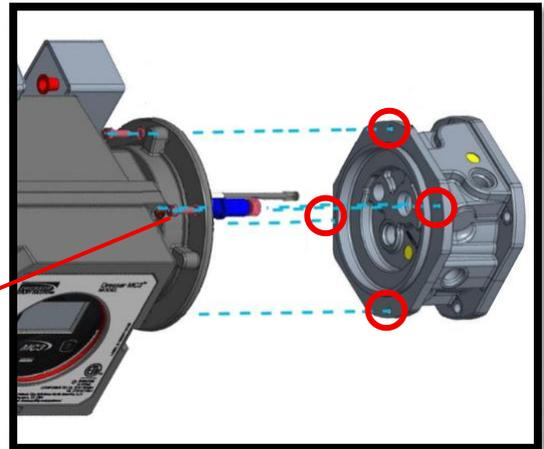

Figure 14: Install on meter
7. Carefully place the corrector on the meter. If your MC3 has an internal temperature probe, make sure the temperature probe cable is not pinched. Verify the four (4) screw holes align (refer to Figure 14).